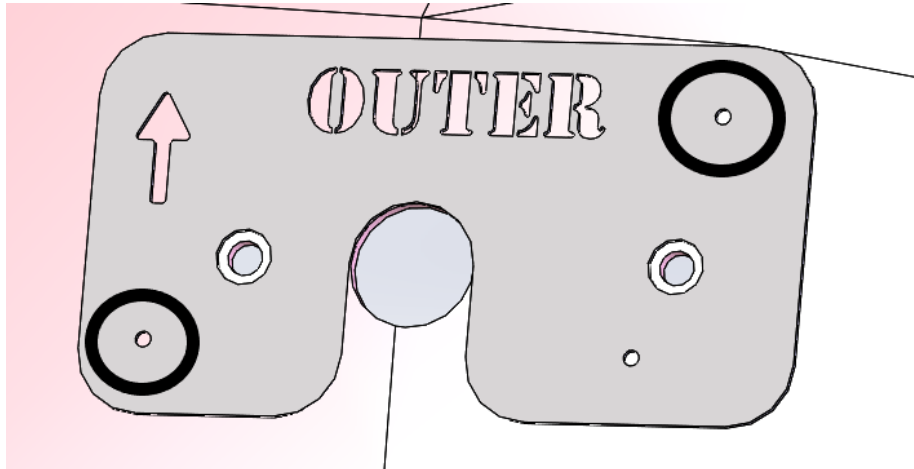

Figure 3: Holes to be Drilled to 17/32" (Circled)
5. Remove the drill templates and drill the pilot holes to the proper size. The two holes circled below in Figure 3 will be drilled to a final size of 17/32" (0.531") and the remaining hole will be drilled to a final size of 25/64" (0.391").